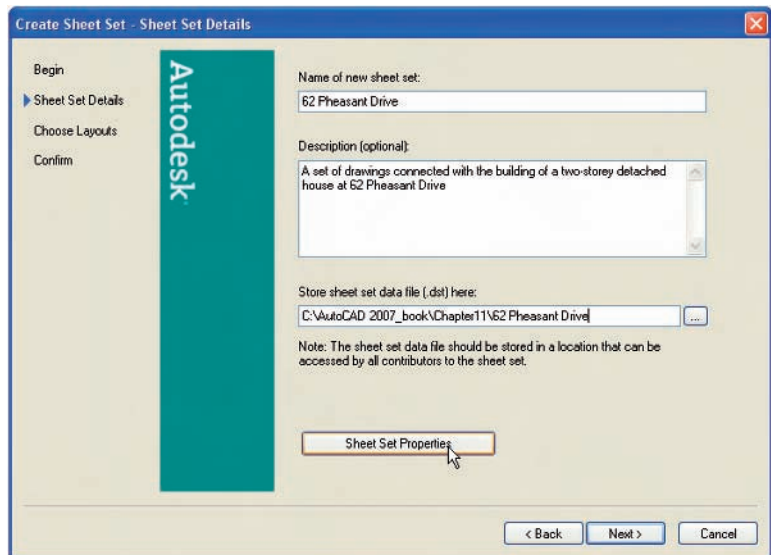

Fig. 11.5 The **Sheet Set Details** dialog
by a *click* on the **Next** button and the next dialog **Sheet Set Details** appears (Fig. 11.5).
4. Enter details in the dialog as shown in Fig. 11.5. Then *click* the **Next** button to bring the **Choose Layouts** dialog to screen (Fig. 11.6).